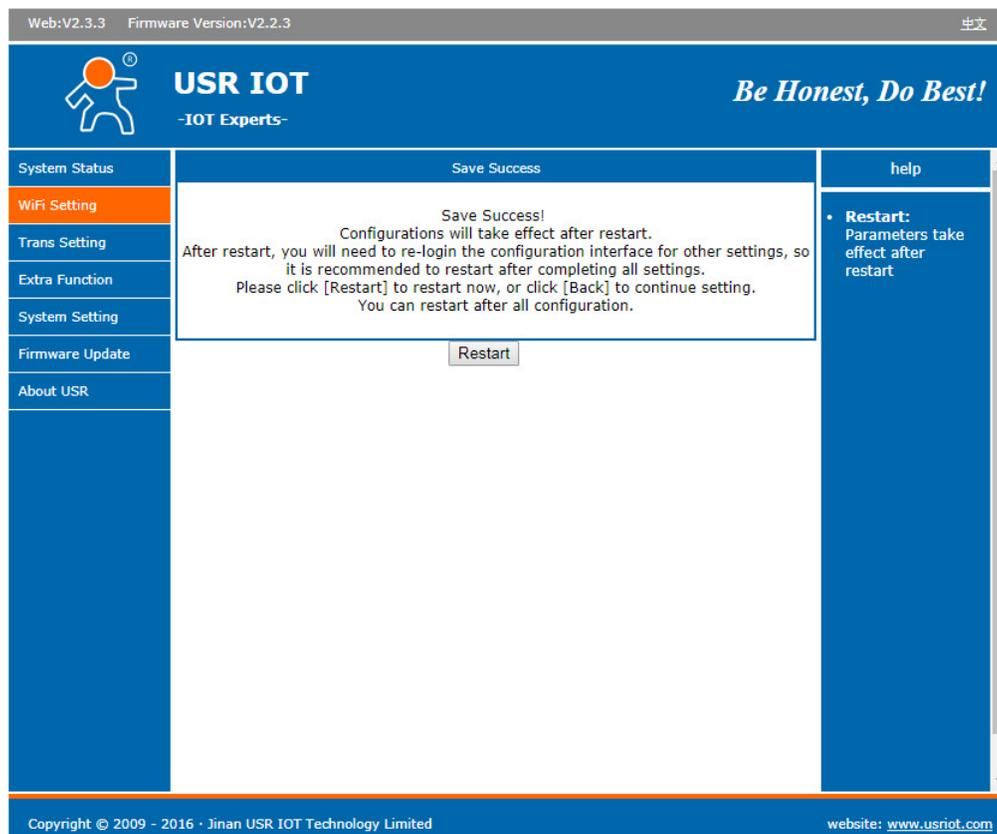

Figure 5: STA Settings changed
6) Once you have verified that all the fields are as desired, click the “Save” button. The page will change to Figure 5.